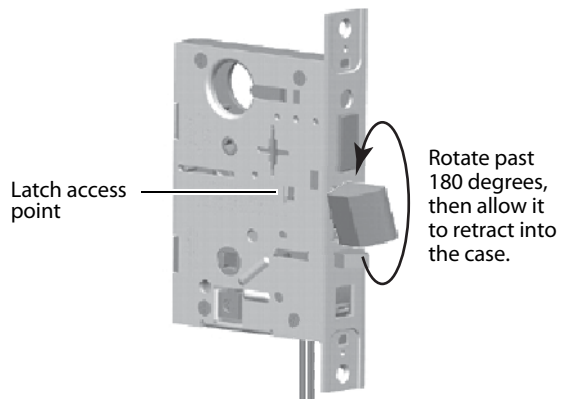

Figure 9 Rotating the latchbolt
- If you need to rotate the latchbolt, insert a flat blade screwdriver into the latch access point approximately 1/2" into the case and press to extend the latch out of the case (Figure 9).